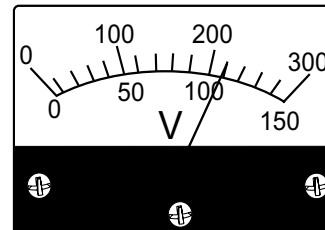

Figure 90. AC Voltmeter (120/240V)
- Also verify that the AC voltmeter is registering a voltage reading as indicated by Figure 90.
- Verify that the AC voltmeter is registering a voltage reading as indicated by Figure 90.